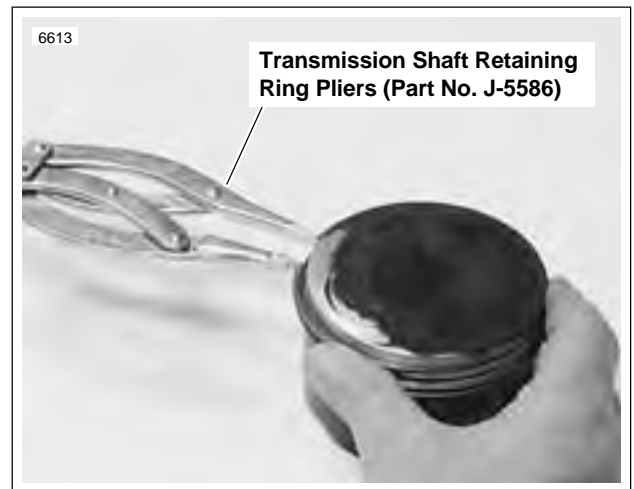

Figure 3-73. Installing Piston Rings
- See Figure 3-73. Apply engine oil to piston grooves. Use TRANSMISSION SHAFT RETAINING RING PLIERS (Part No. J-5586) to slip compression rings over piston into their respective grooves. Be extremely careful not to over expand, twist rings or damage piston surface when installing rings.